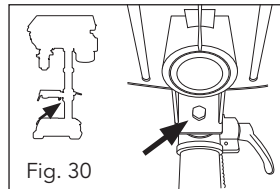

Fig. 30
1. Slacken the carriage bolt under the drill table (4) (Fig. 30).